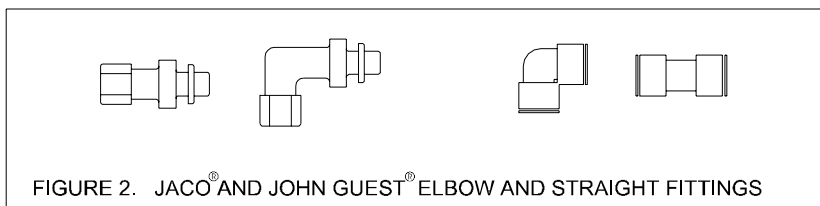
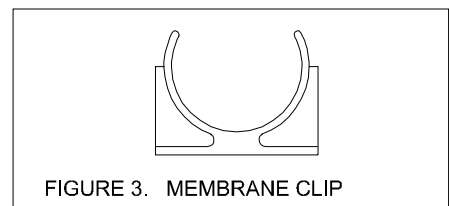
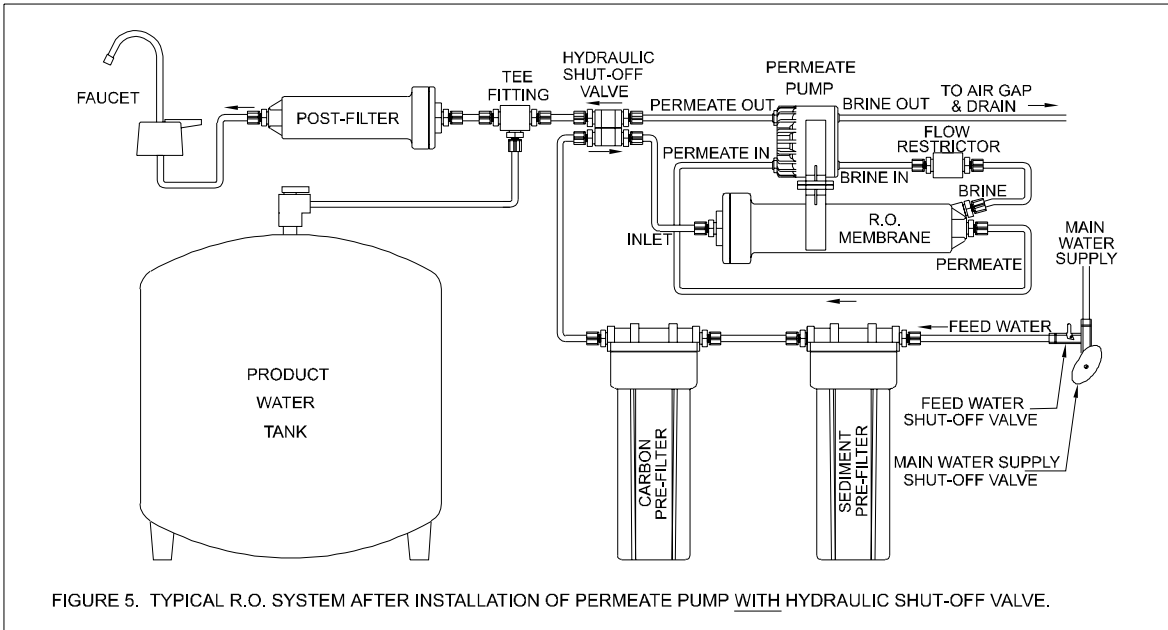
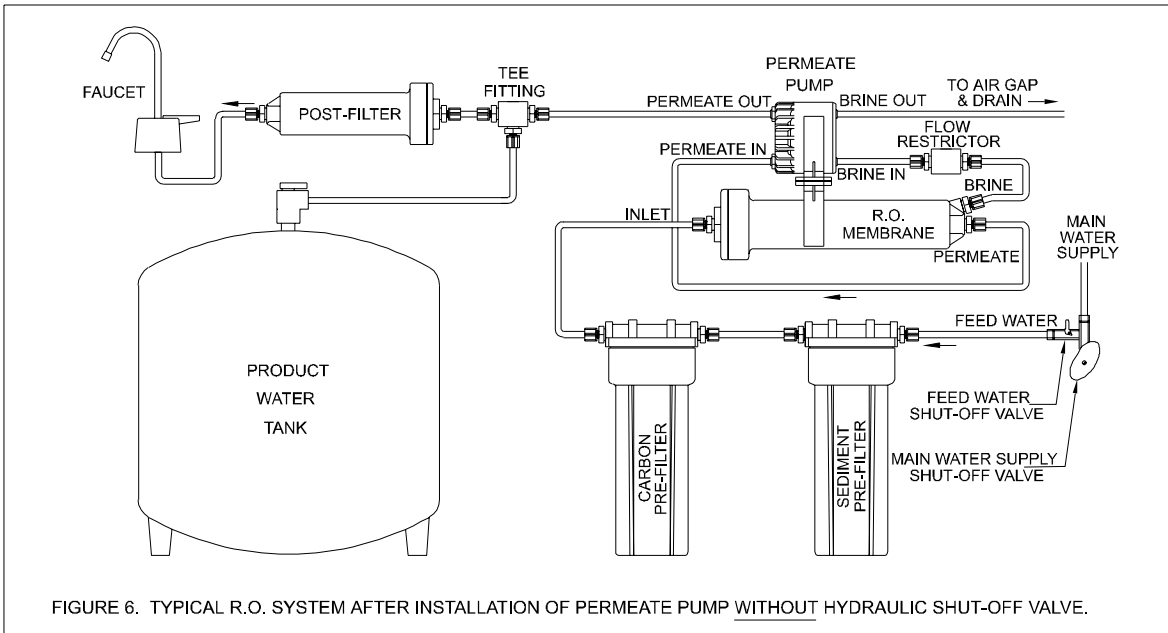

FIGURE 2. JACO® AND JOHN GUEST® ELBOW AND STRAIGHT FITTINGS
FIGURE 3. MEMBRANE CLIP
FIGURE 5. TYPICAL R.O. SYSTEM AFTER INSTALLATION OF PERMEATE PUMP WITH HYDRAULIC SHUT-OFF VALVE.
FIGURE 6. TYPICAL R.O. SYSTEM AFTER INSTALLATION OF PERMEATE PUMP WITHOUT HYDRAULIC SHUT-OFF VALVE.
3. **Mounting of Permeate Pump:** Two methods are commonly used. If you ordered Part Number 25-021 Permeate Mounting Clip Kit, (includes clip and 2 #10 x 3/4" self tapping screws) mount the clip on the system's bracket or other suitable location using the two screws provided. Also available, upon factory request, is a retrofit kit consisting of a membrane housing clip with nut and screw (Figure 3). Drill a #10 hole in the center of the base of the Permeate Pump Mounting Clip and join the two clips (Permeate Pump and membrane housing) at their bases using the screw and nut provided. The Permeate Pump mounts onto the R.O. membrane housing using the clip assembly.
- b. Connect a new tube from the "**PERMEATE OUT**" fitting on the **Permeate Pump** to the inlet side of the hydraulic shut-off valve as shown in Figure 5. Be sure the tube bottoms out on the fitting. If it is desired not to use the hydraulic shut-off valve, connect the permeate pump as shown in Figure 6 (see installation notes).
As shown in Figure 6, the hydraulic shut off valve may be removed from the system and the Permeate Pump will operate as the shut off valve. This configuration may be used only if a substantial volume of water is drawn from the tank each time. The benefit is that the system will produce more water than with the shut off valve installed. If however, the amount of water withdrawn is small (a cup at a time), it is recommended that the hydraulic shut off valve be retained as shown in Figure 5. This will reduce TDS creep of the RO membrane. The addition of the Permeate Pump decreases the time to fill the tank, but it does not reduce the amount of water produced. For manifold type RO systems, contact the factory for installation recommendations.
- Fittings:** John Guest® quick disconnect ports - Optional John Guest® elbow fittings (Figure 2)
- Mounting:** Always mount with outlet ports up. Mounting clip (ABS) with (2) #10 S.S. screws available
- Retrofit Mounting:** Order membrane clip if required (Figure 3). Base of Membrane clip attaches to base of Permeate Pump clip with supplied fastener. Permeate Pump can then be mounted to membrane with clip assembly as shown in Figures 5 & 6.